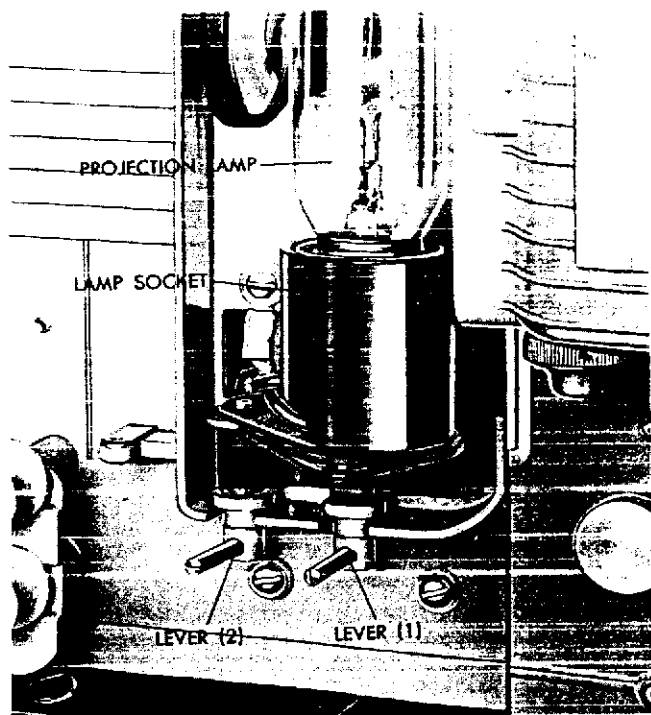

Figure 17. Projection Lamp Adjustment Levers
a. After a projection lamp has been used for two-thirds of its rated life, the filaments may sag so that vertical bands appear on the screen. This condition can be corrected by using the lamp adjustment levers below the projection lamp socket (figure 17).